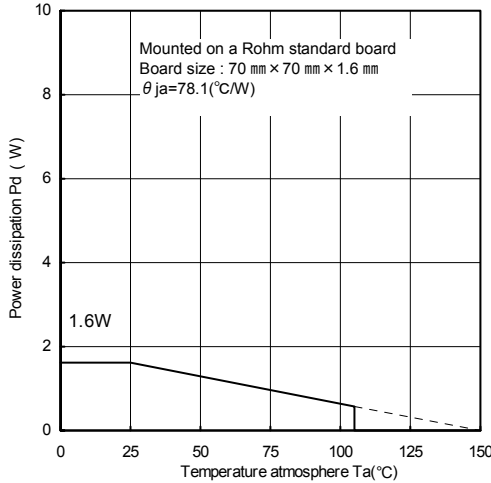
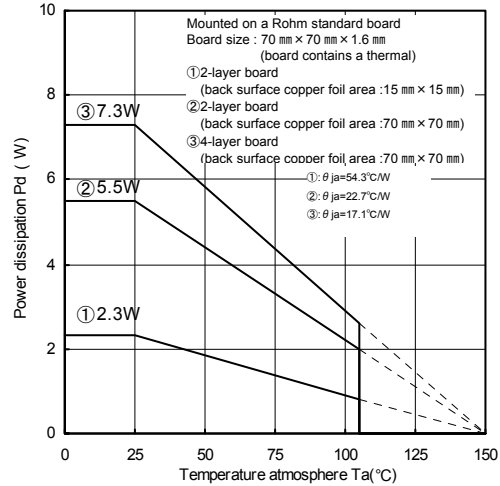

Fig.15
Fig.16 (Reference data)
When using at temperatures over Ta=25°C, please refer to the heat reducing characteristics shown in Fig.15. and Fig.16. The IC characteristics are closely related to the temperature at which the IC is used, so it is necessary to operate the IC at temperatures less than the maximum junction temperature Tjmax.
Fig.15 and Fig.16 shows the acceptable loss and heat reducing characteristics of the HRP5 package. Even when the ambient temperature Ta is a normal temperature (25°C), the chip (junction) temperature Tj may be quite high so please operate the IC at temperatures less than the acceptable loss Pd.
The calculation method for power consumption Pc(W) is as follows :(Fig.16③)
$\left[\begin{array}{l} \text{Fig.16③: } \theta_{ja}=17.1^\circ\text{C/W} \rightarrow -58.4\text{mW}/^\circ\text{C} \\ 25^\circ\text{C}=7.3\text{W} \rightarrow 85^\circ\text{C}=3.796\text{W} \end{array} \right]$